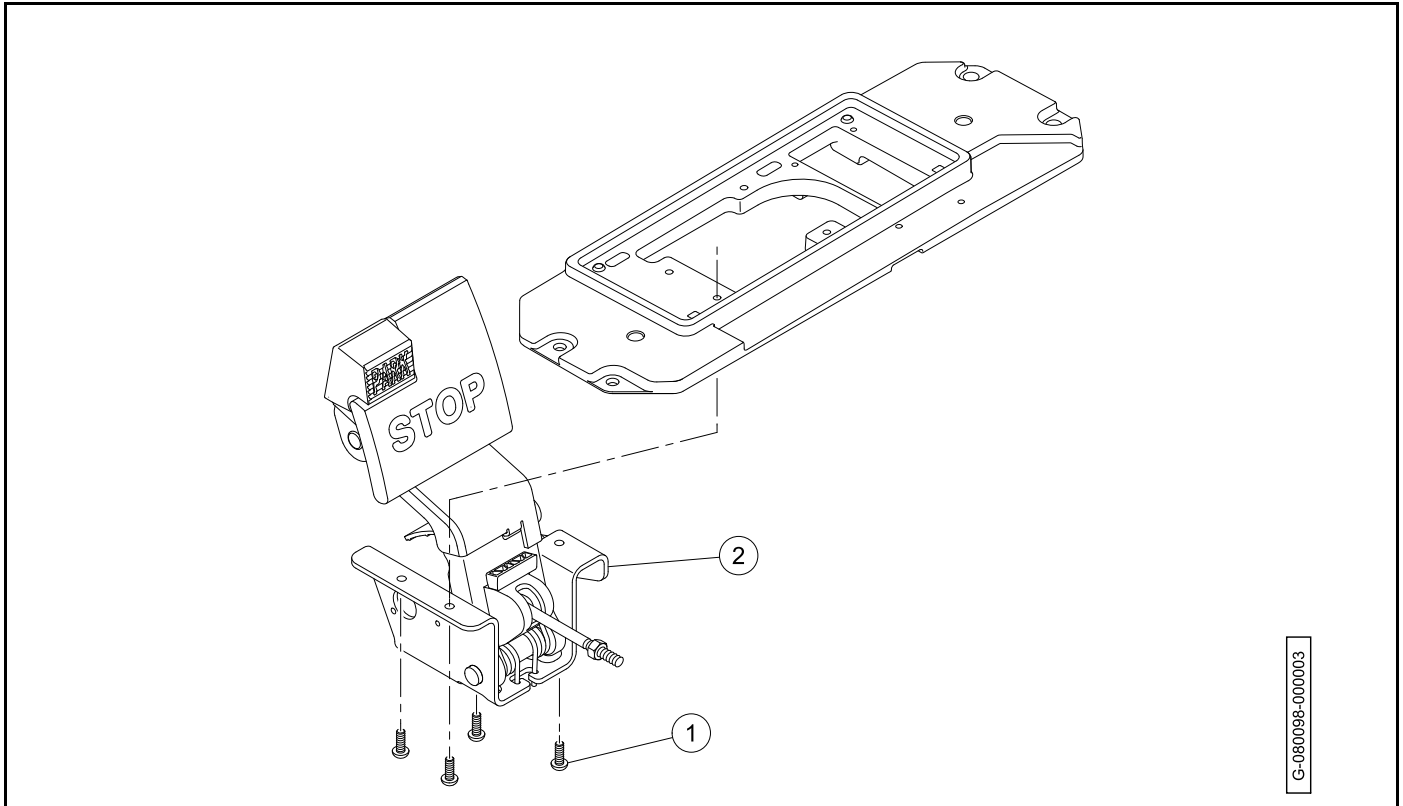

Figure 5-11
3. Remove the screws (1) (**Figure 5-11**).
4. Remove the brake pedal assembly (2) through bottom of pedal group mounting plate.
1. Install the brake pedal assembly (2) through bottom of pedal group mounting plate (**Figure 5-11**).
2. Install the screws (1). Tighten the screws to 100 lb·in (11.3 N·m).